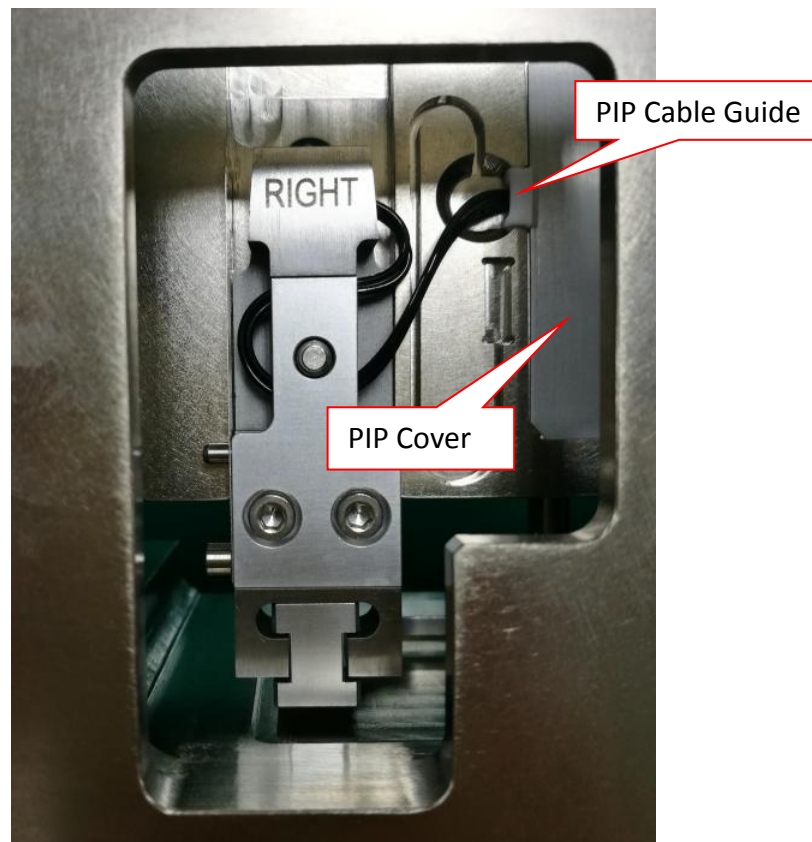

Figure 34 PIP Sensor Cable Routing
5. Assemble PIP Cover Guide & PIP Cover as shown in Figure 34